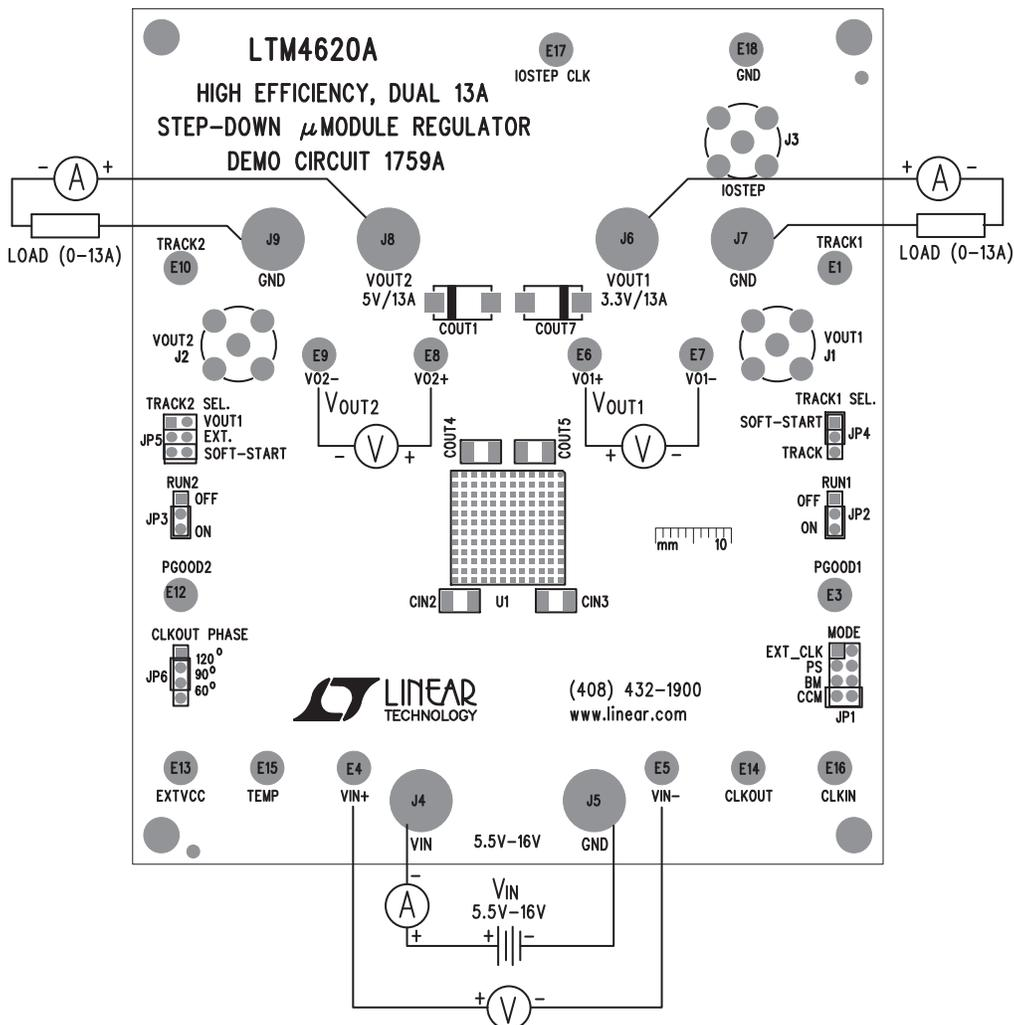

Figure 2. Test Setup of DC1759A
Demonstration circuit 1759A is easy to set up to evaluate the performance of the LTM4620AEV. Please refer to Figure 2 for proper measurement setup and follow the procedure below:
- With power off, connect the input power supply, load and meters as shown in Figure 2. Preset the load to 0A and VIN supply to 12V.